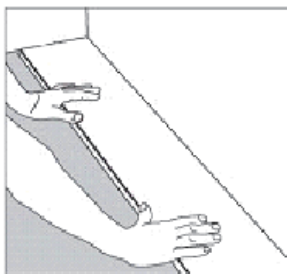

Figure 1
1. Starting from the left with the tongue facing the wall, carefully place the first board in place. (Figure 1)